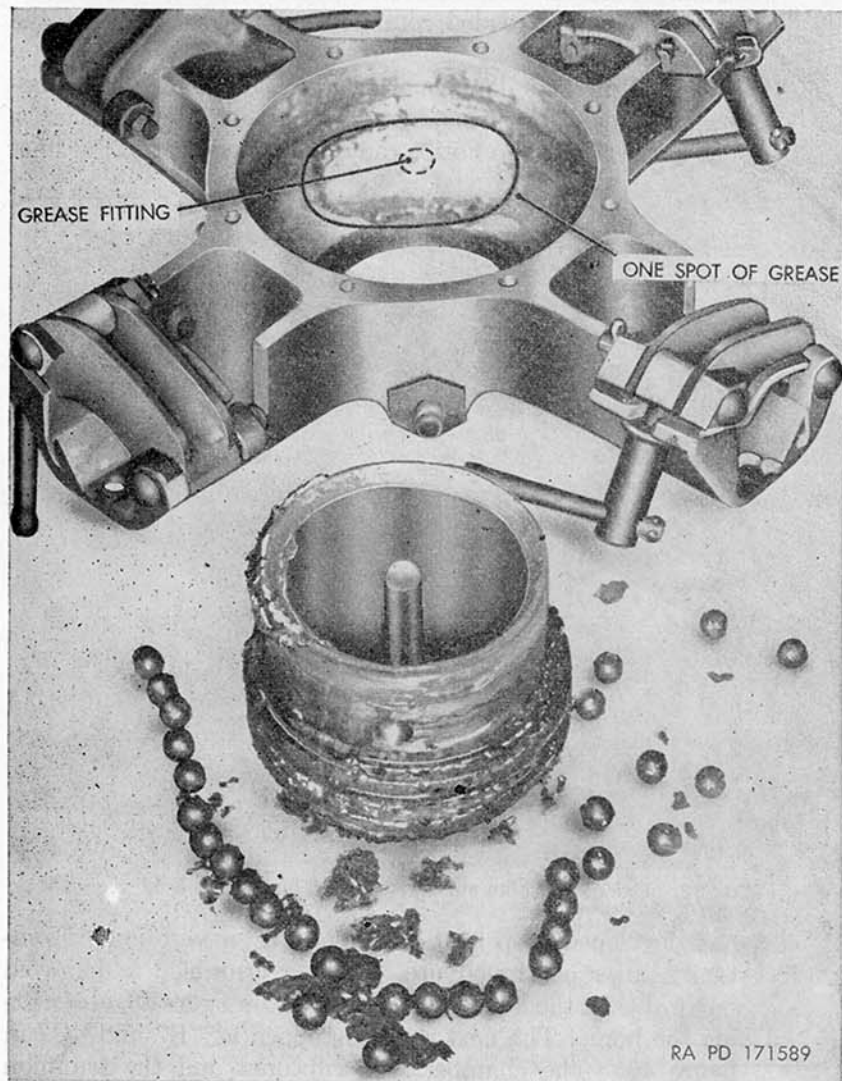

Figure 37. Disassembled base assembly of cal..50 anti-aircraft machine gun mount M63.
c. *Rust and Corrosion.* Lack of proper lubrication or preservative causes rust and corrosion to form in the moving parts of a gun or its mount and leads to operating failures. Figure 37 shows the base